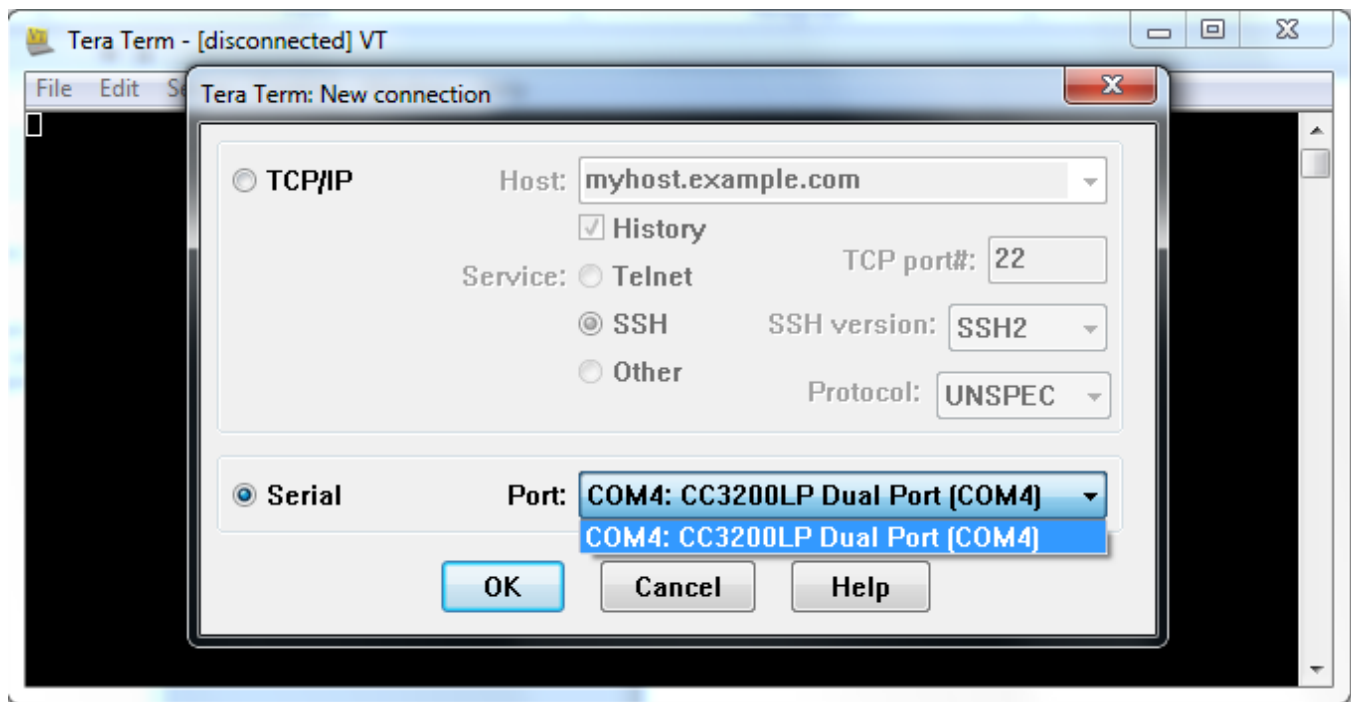

Figure 34. Launch Tera Term
4. Launch Tera Term, and create a new serial connection to the CC3200 Launchpad COM port as shown in Figure 34.